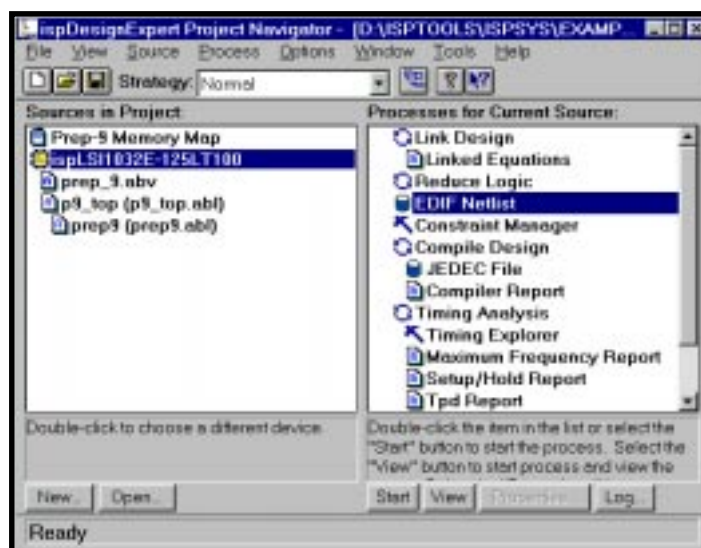

Figure 3-23. VHDL Design Flow
1. In the Project Navigator, select the target device icon to display the associated processes in the Processes window as shown in Figure 3-23.